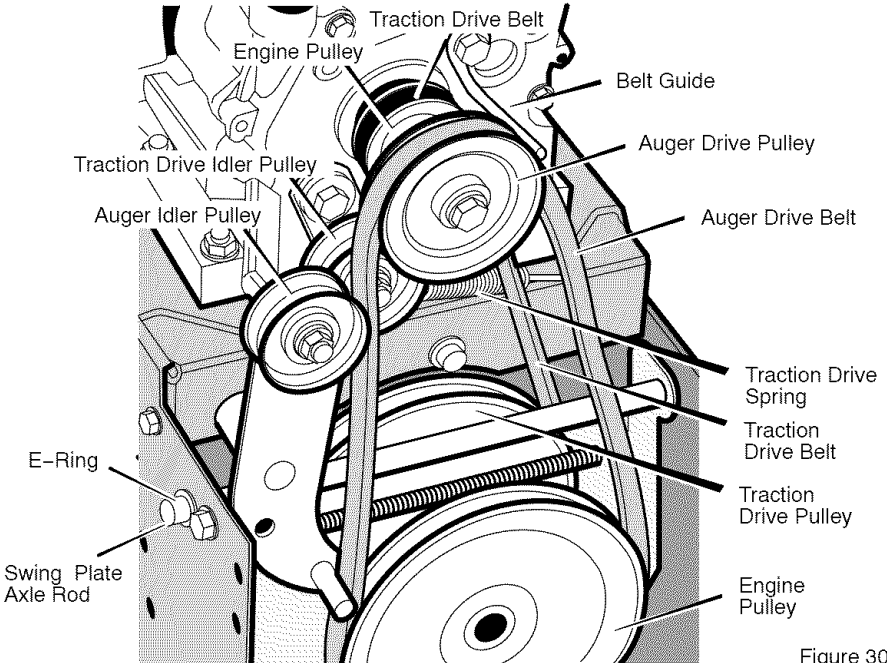

Figure 30
3. Loosen nut on auger idler pulley and move auger idler pulley towards belt about 1/8 inch (3 mm) (see Figure 30).
5. Loosen the **belt guide**. Pull the **belt guide** away from the **auger drive pulley** (see Figure 30).
9. Remove the old **auger drive belt** from the **auger drive pulley**. Replace the **auger drive belt** with an original factory replacement belt available from an authorized service center (see Figure 30).
3. Remove the **e-ring** from one end of the **swing plate axle rod**. Remove the **swing plate axle rod** to allow the swing plate to pivot forward (see Figure 30).